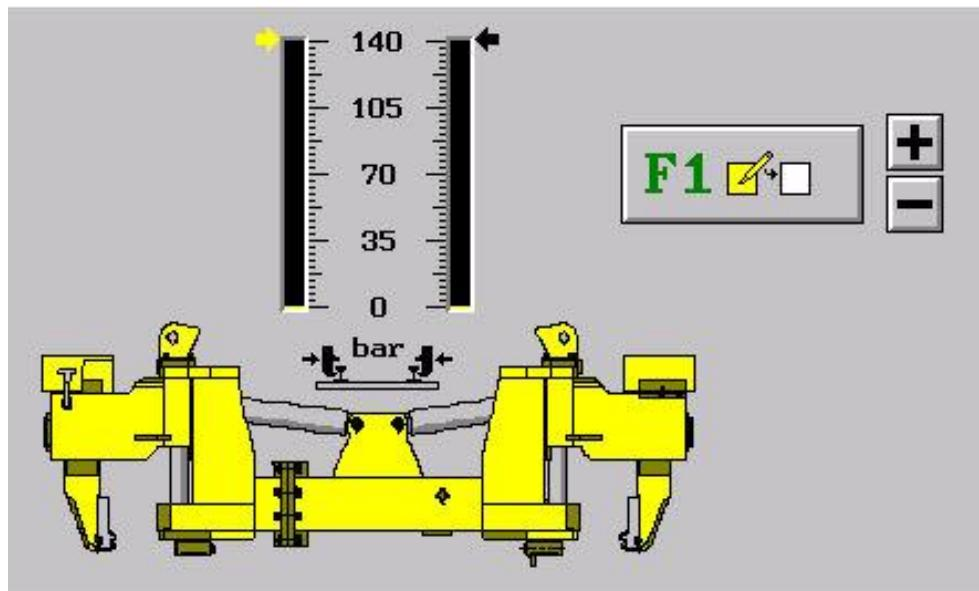

Figure 4-49
1. Go to the workhead clamp frame diagnostic menu by pressing F5 on the 2nd main tool bar. Then press F1 to get into clamp Frame Diagnostics Box. Highlight the hook pressure transducer icon by pressing F1 until the highlighted arrow is lit by the transducer that needs to be changed and set to the recommended pressure by using the plus / minus keys. See figure 4-49.